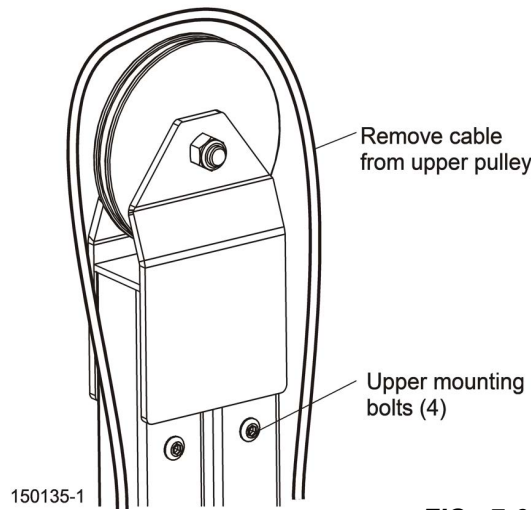

FIG. 7-6
- Loosen (but do not remove) the tension adjustment bolt. Remove the cable from the top pulley and remove the four mounting bolts at the top of the assist assembly. See FIG. 7-6.